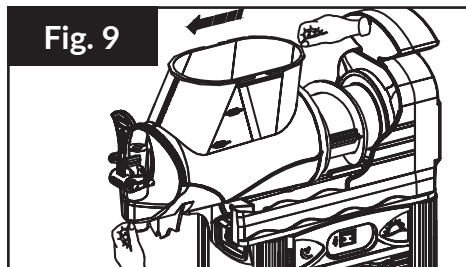

Fig. 9
2. Remove the bowl from its seat. (Fig. 9)